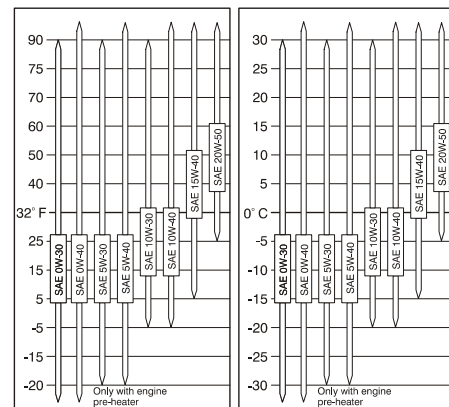

Figure 3-59. Engine Oil Viscosity
7. Pour in new engine oil. Refer to Section 1 for capacity and Figure 3-59., Engine Oil Viscosity.